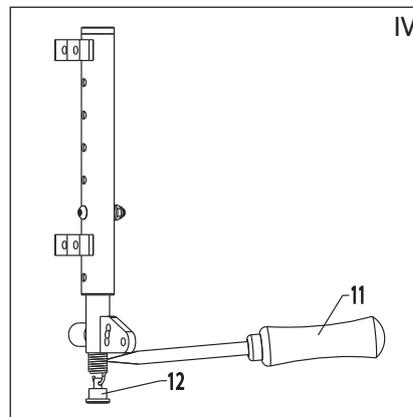

Abb. 4
Secure the expansion spring using a screwdriver (Fig. 4, item 11) and remove the cord. Put the spring holder (Fig. 4, item 12) onto the lower eyelet of the expansion spring. Remove the screwdriver and the eyelet of the expansion spring will lock in place.